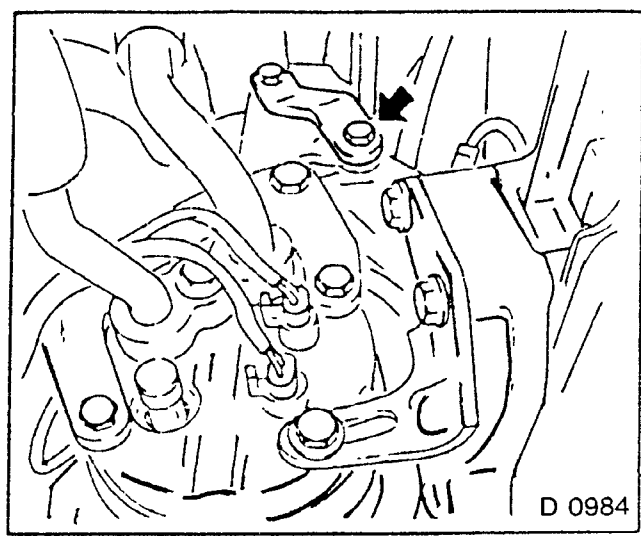

Fig. 110
- 4. Fastening bolts (long, Fig. 110/arrow) from bracket and compressor